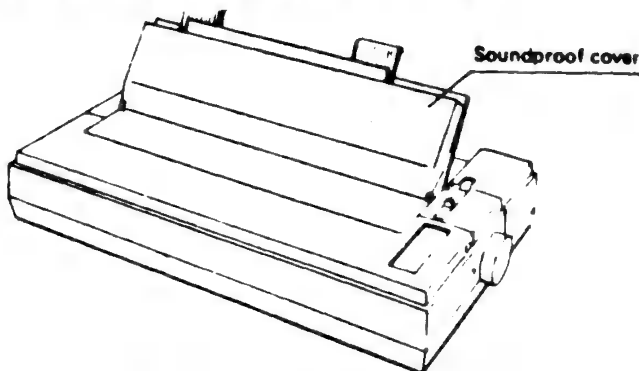

Figure 2-15 Closing the Covers
8. Close the covers. The soundproof cover should be against the rear Cover, as shown in Figure 2-15.